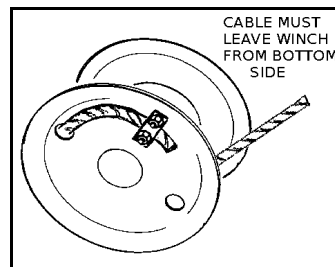

Figure 3.18
1. Attach cable to winch. Cable must leave winch from bottom side (Figure 3.18).